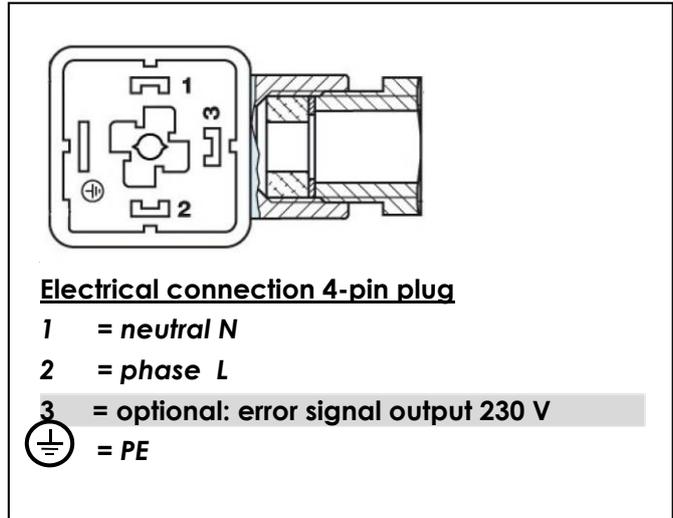

Fig 33: Electrical connection 4-pin plug
- ⇒ Route a flexible 3-wire electrical connection cable [max. 3 x 1.5 mm2] for power supply burner kit to the four-pin plug and connect the cable according to connecting scheme [Fig 33].